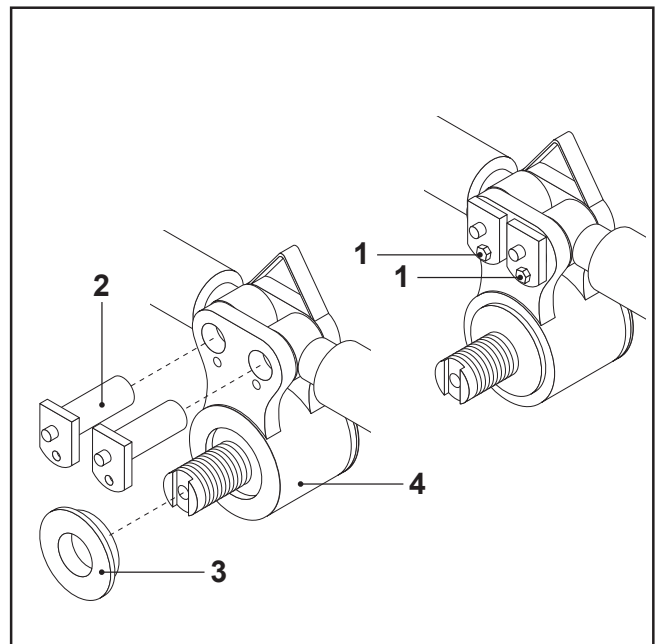

FIG.60
- Unscrew the two TE screws (FIG. 60-REF. 1) on the head of the jack retaining pins and remove the two pins (FIG. 60-REF. 2).
- Set aside the lever locking washer (FIG. 60-REF. 3) and the tapered connecting rod (FIG. 60-REF. 4).